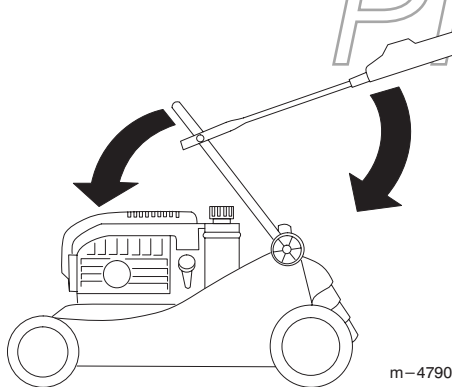

Figure 34
3. Carefully swing the lower handle section forward until it rests on the engine (Fig. 34).
4. Carefully swing the upper handle section rearward until it rests flat (Fig. 34).